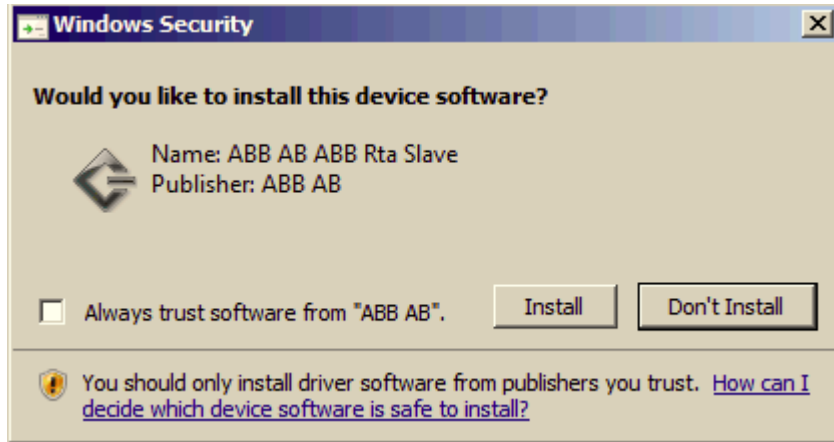

Figure 44. Windows Security Dialog Box
- a. **Windows Security dialog box:** The Windows Security dialog box shown in Figure 44 will appear once if PU515 was selected and twice if PU410 was selected. Click **Install** to continue.